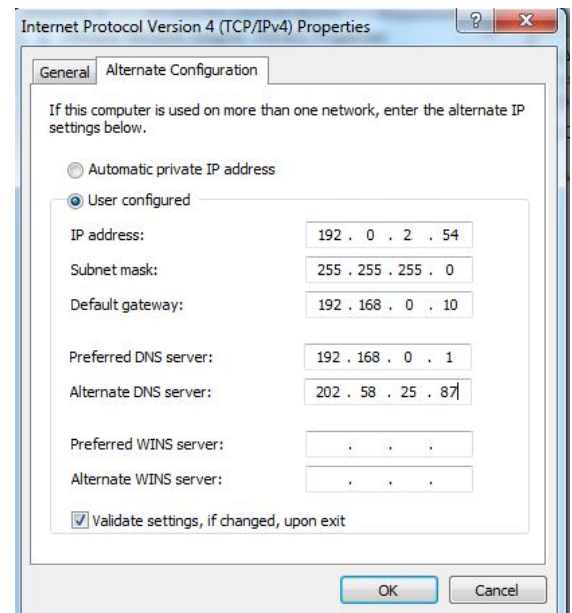

Figure 1.
7. Select **User configured** and enter e.g. the 192.0.2.54 IP address and 255.255.255.0 as **Subnet mask** as shown on Figure 1.